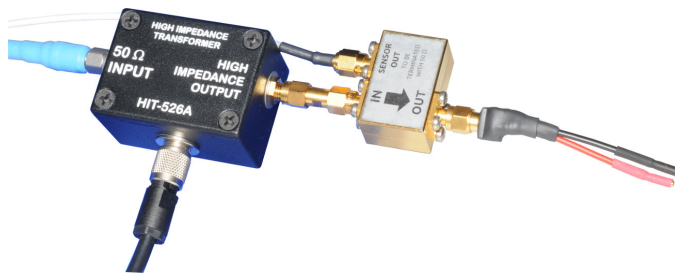

Figure 6: CS-0V5-A current sensor directly connected to the HIT-526A high impedance output.
2. The current sensor CS-0V5-A should be mounted as close as possible to the HIT-526A high impedance output as shown in Fig. 6. Please check the correct direction of the CS-0V5-A (arrow) for positive current output signal polarity.